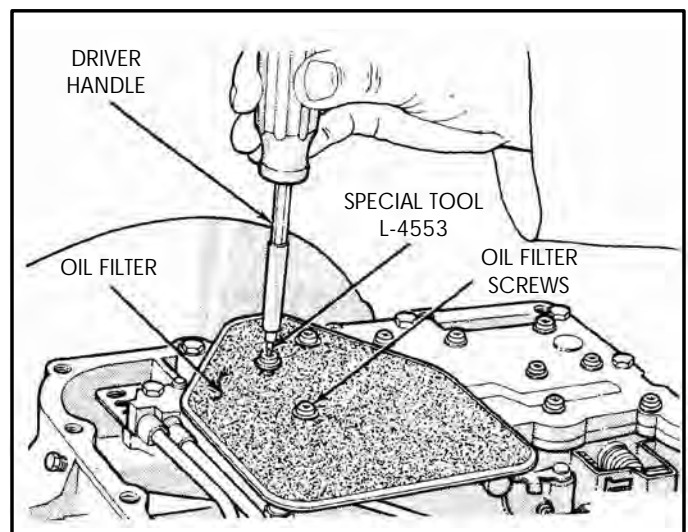

Figure 30
8. Remove the oil filter screws from the valve body, as shown in Figure 30.